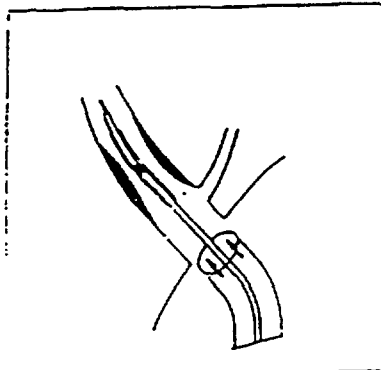

Figure 6 Injecting contrast medium through the guiding catheter with the balloon in the stenosis.
12. After the first inflation and each subsequent inflation, assess distal coronary blood flow by arteriography through the guiding catheter while the deflated balloon remains in the stenosis (Figure 6). Maintain the guide wire across the stenosis until distal blood flow is adequate. If distal coronary blood flow is reduced and myocardial ischemia develops before an effective dilatation is achieved, the guide wire may be advanced and maintained across the stenosis as the balloon is withdrawn, permitting reperfusion of the distal vessel.